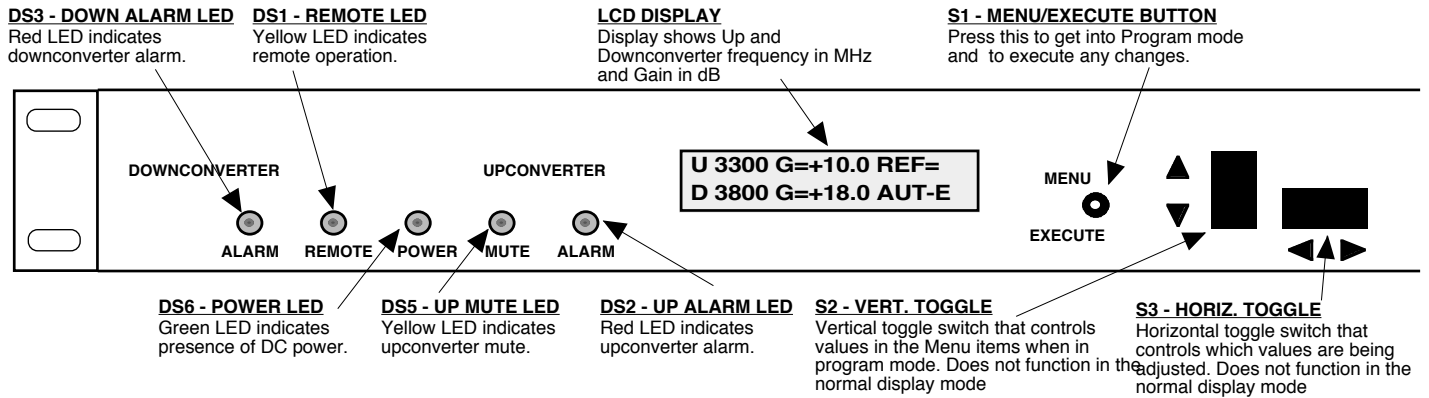

Figure 2.2 Model 3117-3338#-720 Front Panel Controls and Indicators
Figure 2.2 shows the input and output connectors on the rear panel.
- 5.) Be sure DS6 (green, DC Power) is on and DS2 (red, Alarm) is off (Figure 2.2).
- 5.) Be sure DS6 (green, DC Power) is on and DS3 (red, Alarm) is off (Figure 2.2).
2.5.1 Functions - This section describes operation of the front panel controls. There are three operator switches, the LCD display and alarm indicator LEDs. All functions for the equipment are controlled by these components. The functions are (see Figure 2.2):
Alarm indications appear on the LEDs (see figure 2.2).